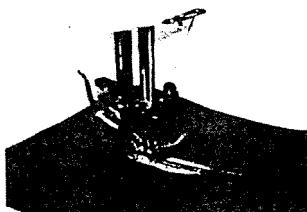

Fig. 34
- 1) At first begin to sew according to the warp toward and away from you across the torn area. (Fig. 34)